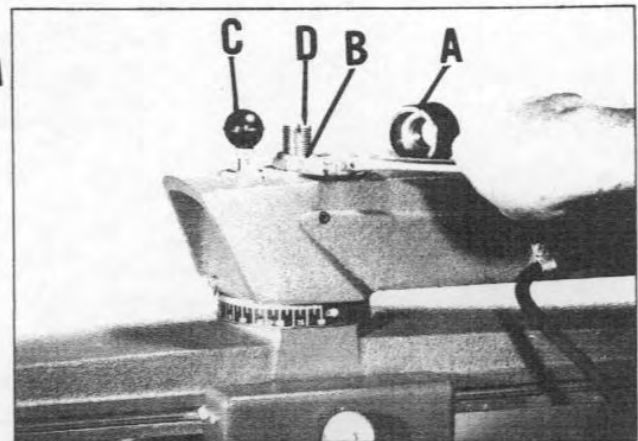

Fig. 34
2. Place clamp handle in unlocked position, remove clamp handle rod from the nut (A) and remove the nut, Fig. 34.
3. Using a wrench tighten nut (B), Fig. 34, until the track-arm is snug against the over-arm. Test by lifting the miter plunger (C) and making sure the track-arm rotates smoothly and does not bind.
4. Tighten the nut (A) on the King bolt (D) Fig. 34, and insert the clamp handle rod in the nut.